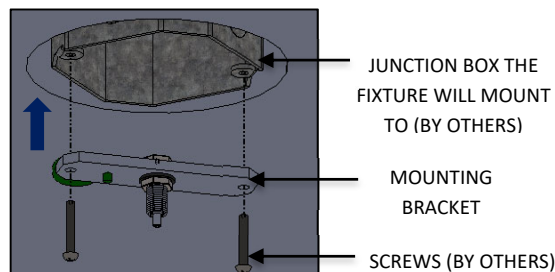

FIG. 22 - MOUNTING BRACKET ASSEMBLY INSTALLATION
- Assemble the MOUNTING BRACKET ASSEMBLY to the JUNCTION BOX the fixture will mount to (by others) with screws (by others) as shown in FIG. 22 below.